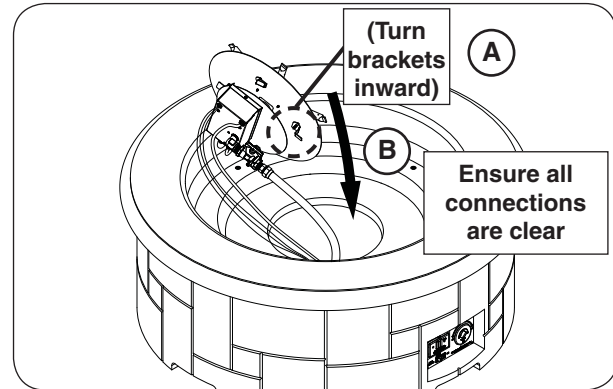

Fig. 22-2 Insert burner assembly
1. Ensure that the four burner brackets are turned inward, then insert the burner assembly (see Fig. 22-2, A-B).